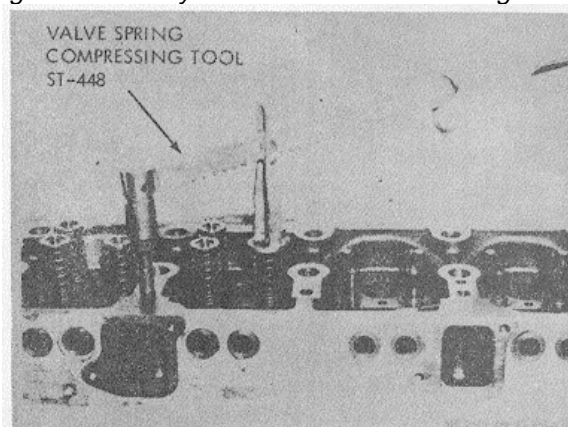

Figure 3-120. Compressing valve springs with ST-448.
- (4) Screw stud from ST-448 in rocker lever bearing capscrew hole.
- (5) Compress one valve spring at a time, figure 3-120. Tap valve head lightly to loosen; then remove half collets.
- (6) Withdraw valves, valve springs and retainers (and valve spring guides).
- (7) Remove ventilators.